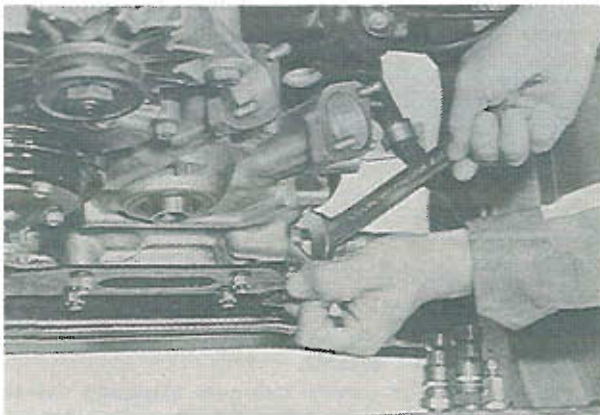

Fig. 1-8 Disconnecting of oil hose
14. Disconnect the oil hose from the front cover as shown in Fig. 1-8.